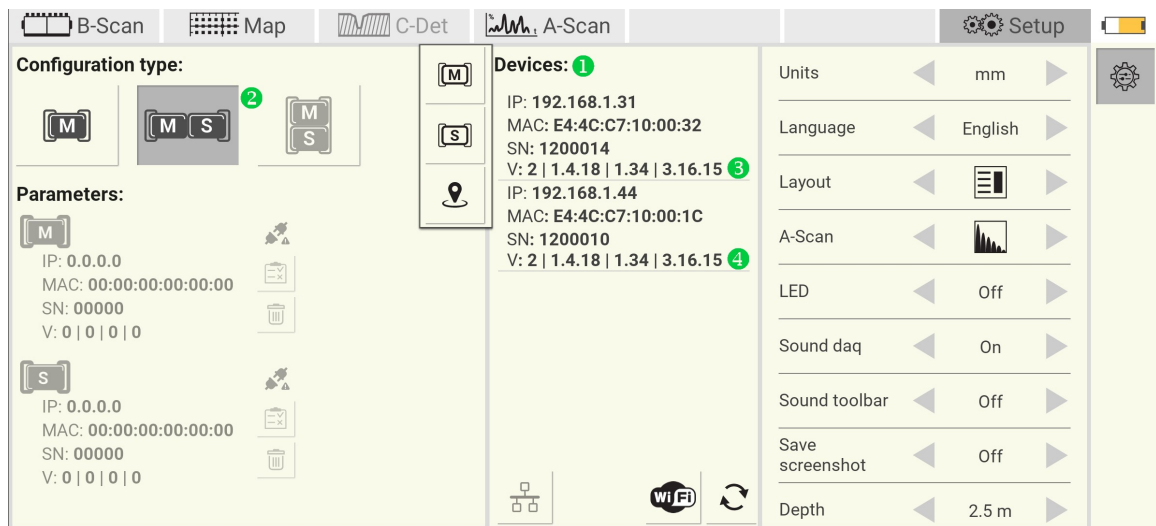

Figure 24: A1040 MIRA 3D PRO configuration
Switch on the tomograph, establish the connection to the hotspot and start the app. After the scan finishes, the device list ① shows all available devices. Select A1040 MIRA 3D PRO-configuration ② and tap on a device item ③ or ④ to assign the device as a master [M] or as a slave [S], Figure 24.